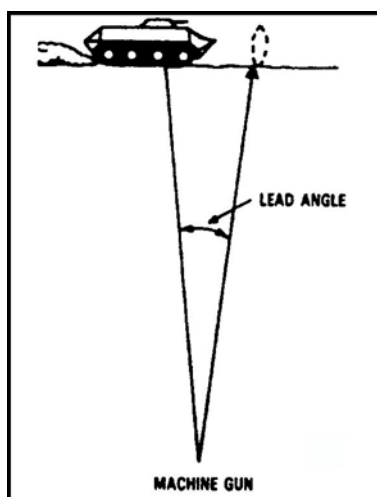

Figure 7. Moving target engagement.
7. Engage a moving target using six- to nine-round bursts (Figure 7).